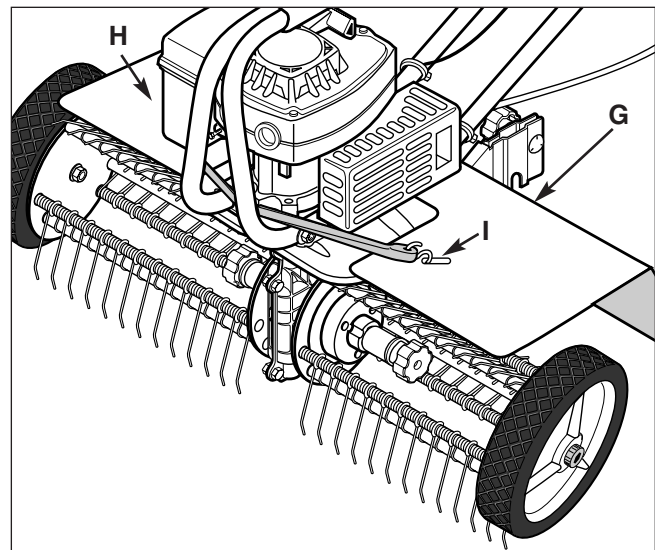

Figure 5
- From the rear of the machine, slide the metal debris shield (G, Figure 5) over the top of the plastic tine shield.
- Insert the "S" hook on one end of the mounting strap into one of the slots in the debris shield (H, Figure 5). Stretch the mounting strap between the front of the engine and the carrying handle tubes and attach the other "S" hook into the remaining slot (I) in the debris shield.